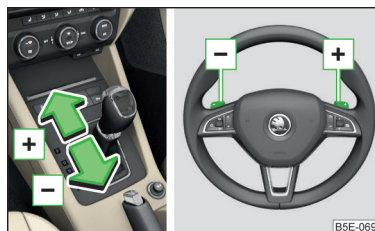

Fig. 246
- To **change gear**, pull one of the rocker switches  briefly towards the steering wheel » Fig. 246.
- To **shift up**, tap the selector lever forwards  or pull the rocker switch  briefly towards the steering wheel » Fig. 246.
- To **shift down**, tap the selector lever backwards  or pull the rocker switch  briefly towards the steering wheel » Fig. 246.